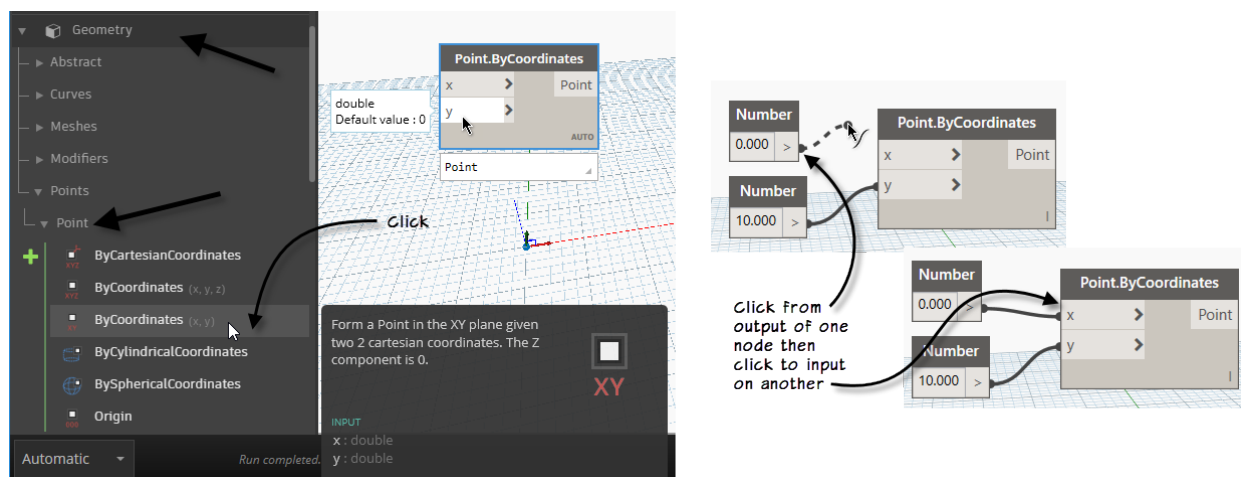

FIGURE 10
7. In the Library, click on: *Geometry*, then *Points*, then *Point* and then *ByCoordinates (x,y)* (see the left side of Figure 10).
10. Click on the output port (right side) of the first *Number* node and connect it to the **x** port of the *Point.ByCoordinates* node. Repeat for the second *Number* connecting it to the **y** port (see the right side of Figure 10).